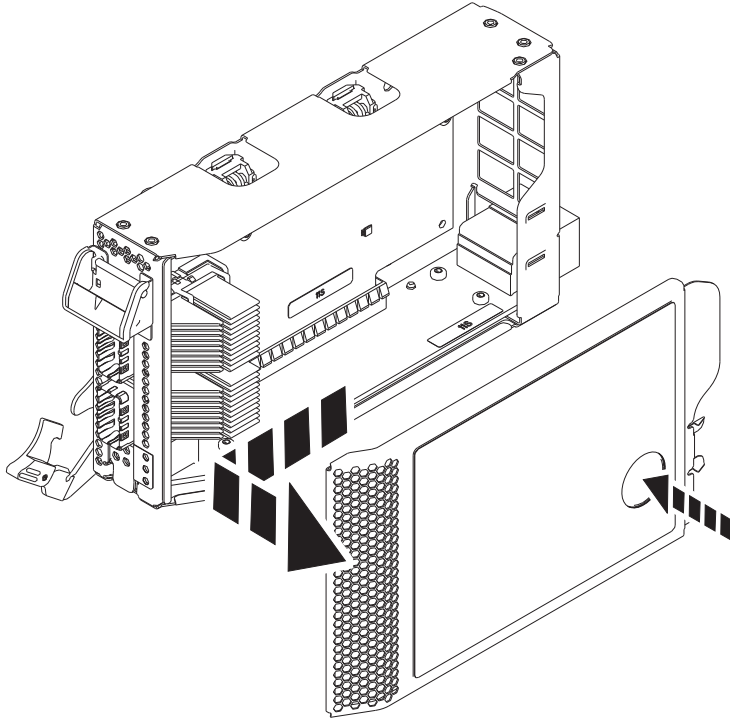

Figure 27. Removing the PCIe adapter cassette cover
- a. Press the terracotta button on the cassette cover as shown in Figure 27 on page 27 to disengage the cover from the cassette.